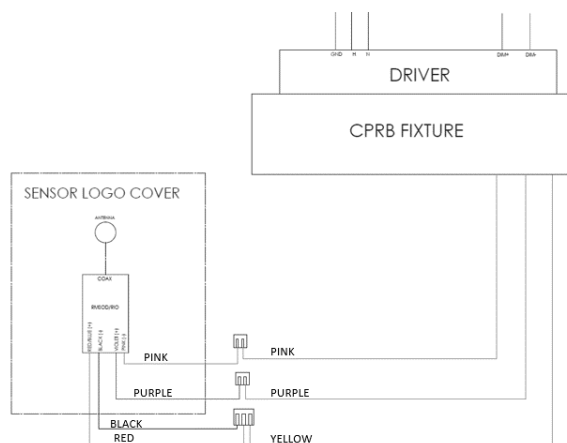
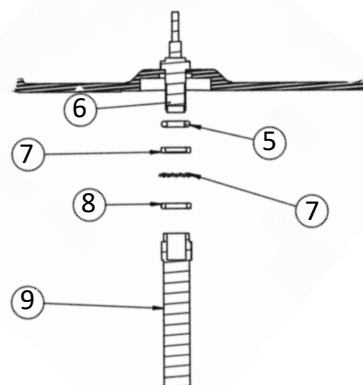

Figure 2
Figure 3
2. Attach wires from the CPRB Fixture to RMSOD sensor according to the wiring diagram shown in **Figure 2**. Wire locations are also shown on product label.
3. Items (5), (6), (7), and (8) are preinstalled. Item (9) must be attached.
4. Attach external antenna (9) to the brass SMA connector. Torque spec for proper installation is 5in-lbs - **Figure 3**.